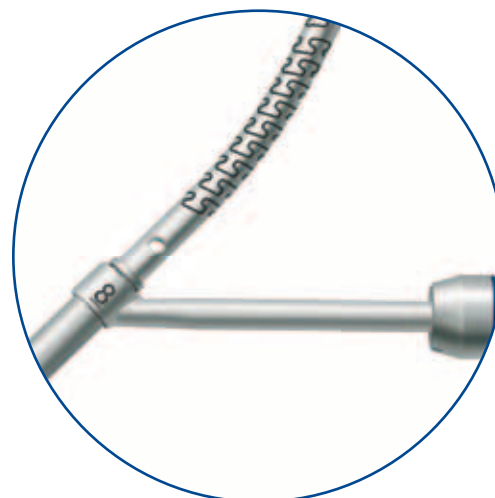

Figure 54
Select the appropriate Drill-Tap (DT) Guide based on the desired drilling depth. The DT Guides are available with fixed drilling depths from 6mm to 18mm in 2mm increments. Both the straight and flexible drill bits must be used in conjunction with the DT Guide to achieve a fixed drilling depth (**Figure 54**). When the flexible drill bit is used, the DT Guide will help stabilize the flexible shaft and direct the drill bit in the proper position. Using the DT Guide to align the drill hole in the Occipital Screw Connector, insert the flexible drill bit through the DT Guide, and drill to the desired depth (**Figure 55**). Drilling must be done through the Occipital Screw Connectors to ensure proper drilling depth.